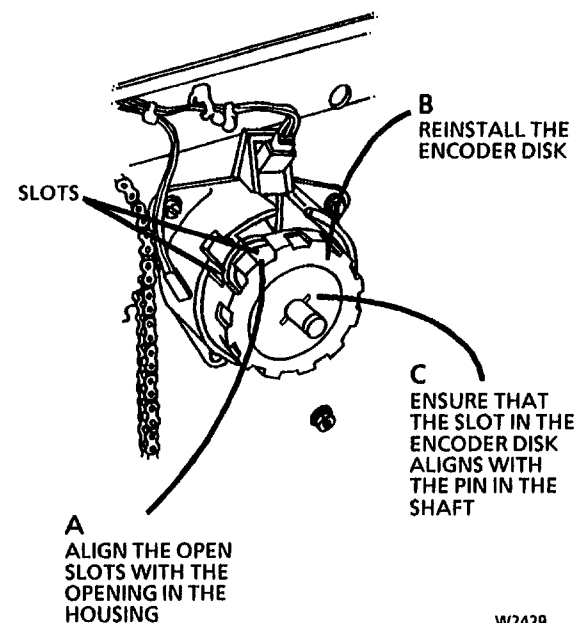

Figure 2. Reinstalling the Encoder Disk
2. (Figure 2): Reinstall the Encoder Disk.